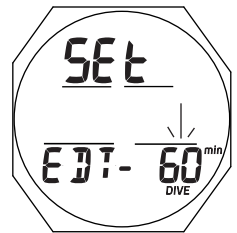

Fig. 42 - SET EDT ALARM
**Set EDT (Elapsed Dive Time) Alarm**, information includes (Fig. 42):